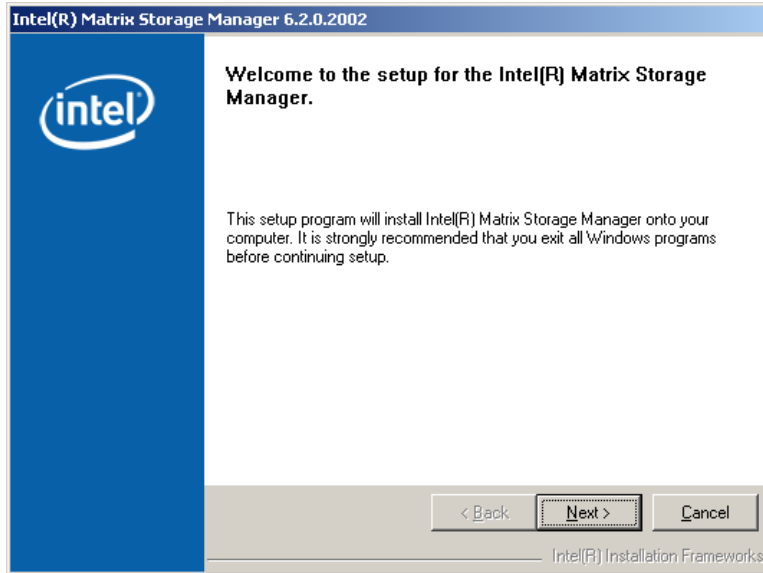

Figure 7-25: Matrix Storage Manager Welcome Screen
Step 7: Figure 7-25 shows the **Matrix Storage Manager** welcome screen.